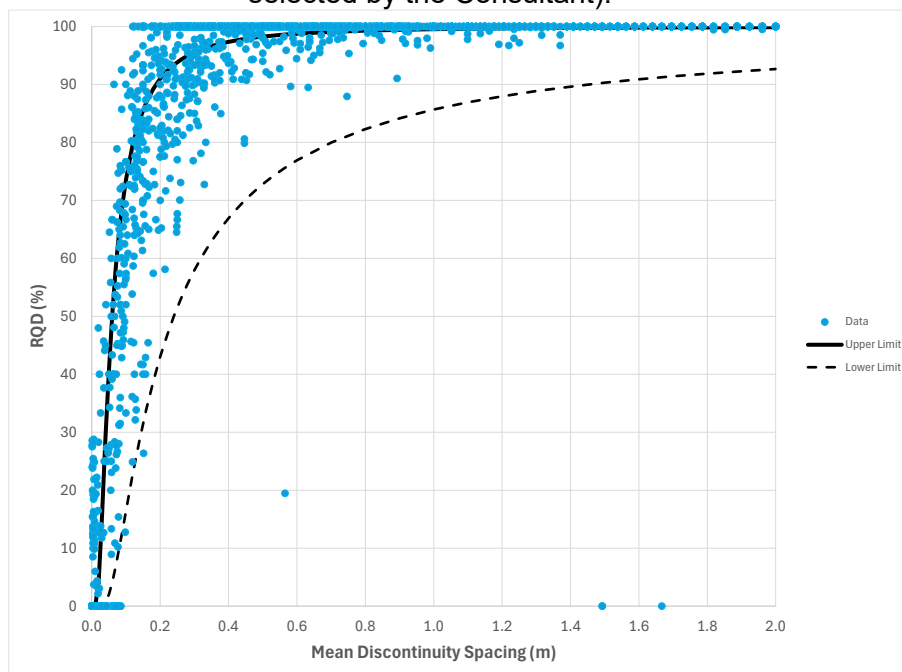

Figure 3: Example Relationship between RQD and Fracture Spacing
- f) Published RQD vs Fracture Spacing relationships (see Figure 3).